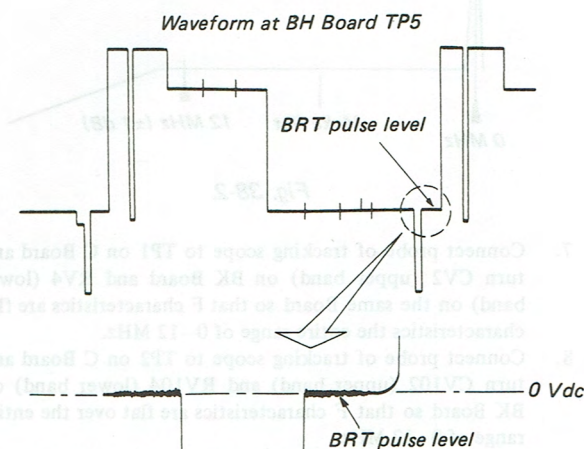

Fig. 36-4.
12. In Fig. 36-4, turn H Board RV6 (BRT PRESET VR) inside the drawer so that the BRT pulse level is 0V DC. (oscilloscope to be at max. voltage sensitivity)